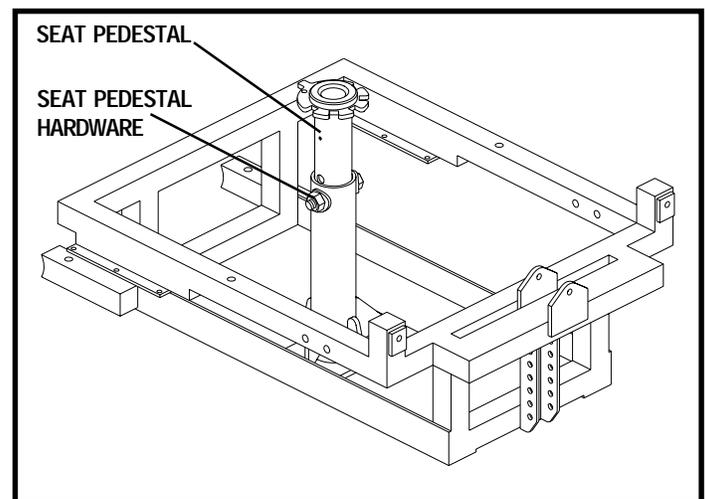

Figure 10. Seat Height Adjustment
3. Remove the hardware that attaches the seat pedestal to the power base. See figure 10.